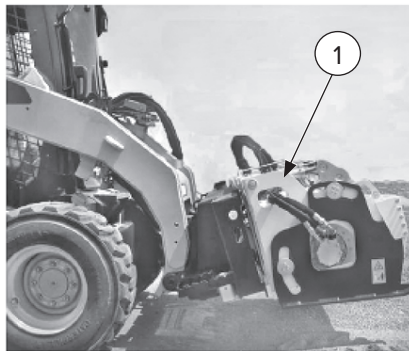

Figure 10
1. Move the equipment to the start of the working site, keeping the unit [Figure 10, Item 1] at the center of the mount to maintain balance.